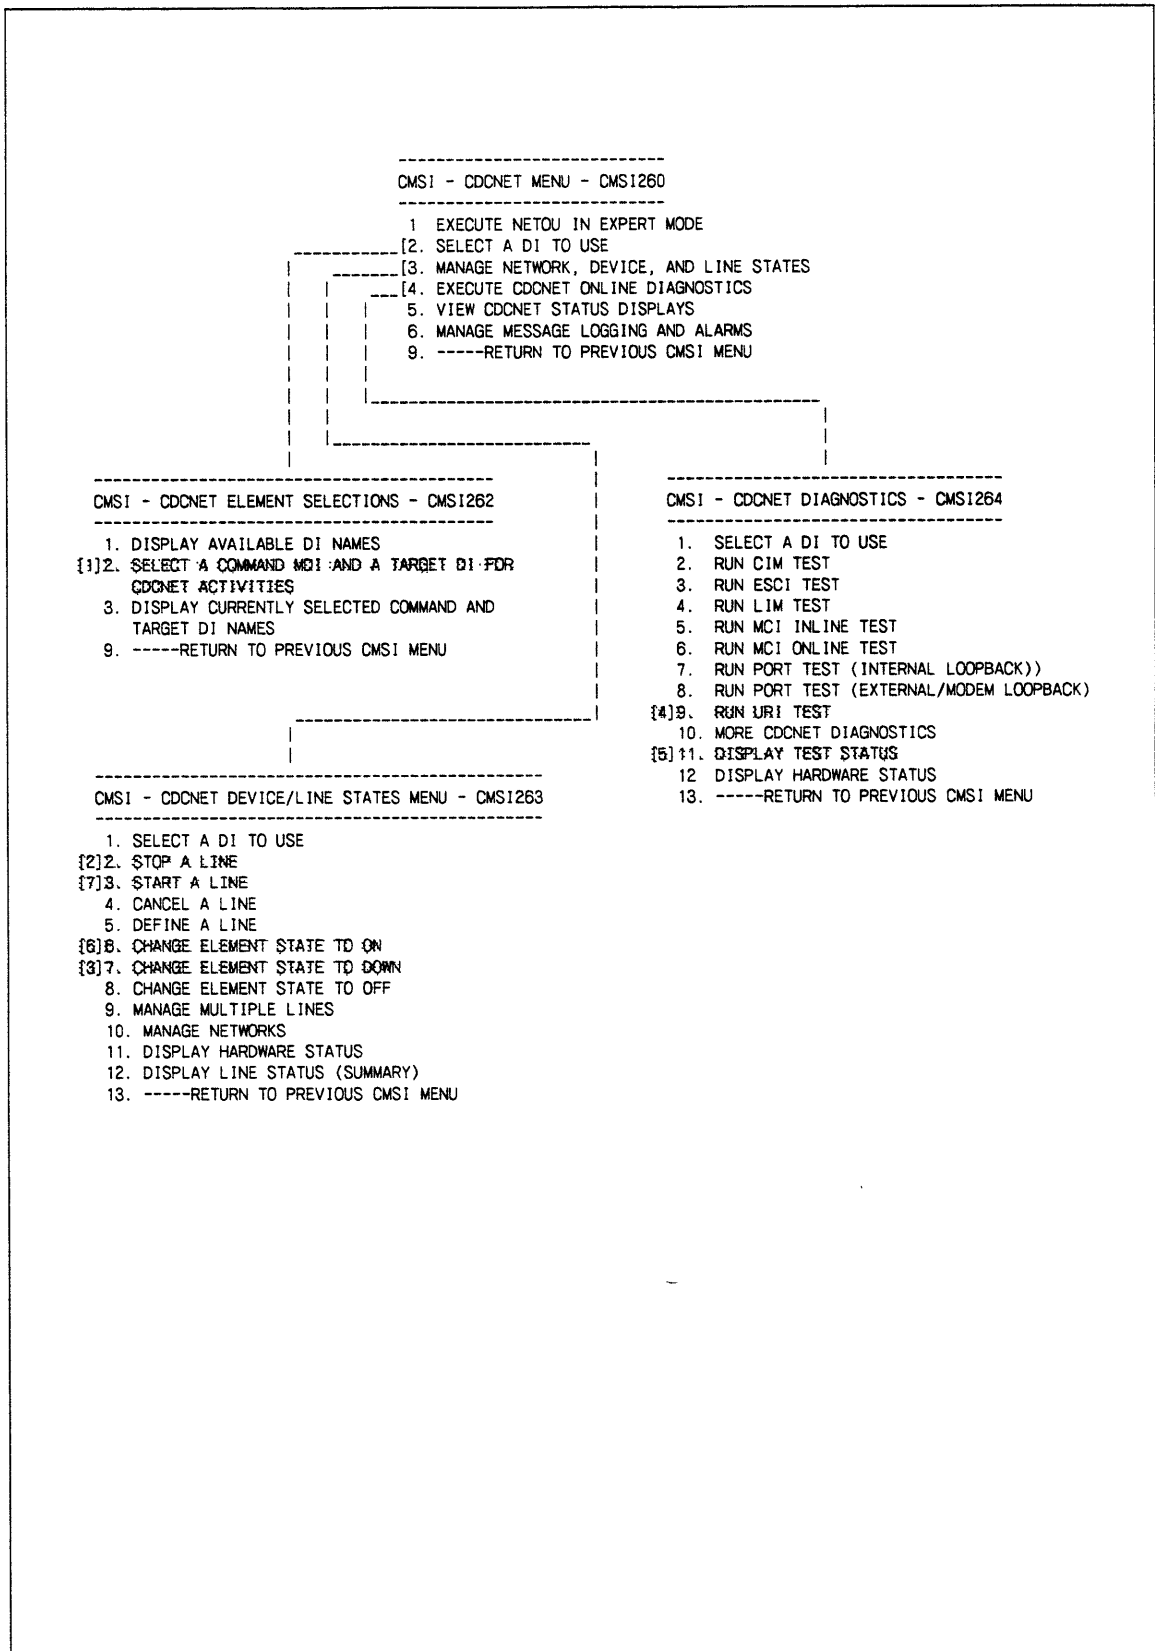

Figure 6-15. CMSI Menus for URI Online Test
The following shows the sequence of actions necessary to run the URI online test. Each menu choice is shown on figure 6-15 and described below. The purpose of this topic is to serve as a quick reference for the most frequently used menu selections. See chapter 4 for a complete description of CMSI. Familiarize yourself with the URI test notes and procedure given earlier in this topic before running the test.
- Numbers in this column correspond to the bracketed numbers (for example, [1]) on figure 6-15.